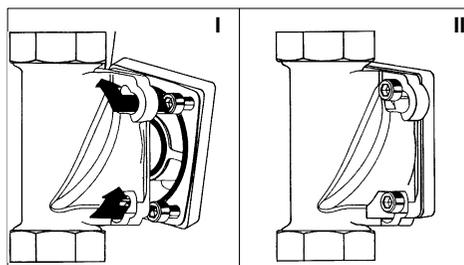

Fig. 2: Built-in rotary flange with bayonet fixture
- Insert the four flange screws in the bayonet drill holes on the built-in rotary flange (see fig. 2 II).
- Turn the domestic water station in a clockwise direction as far as it will go (see fig. 2 II).